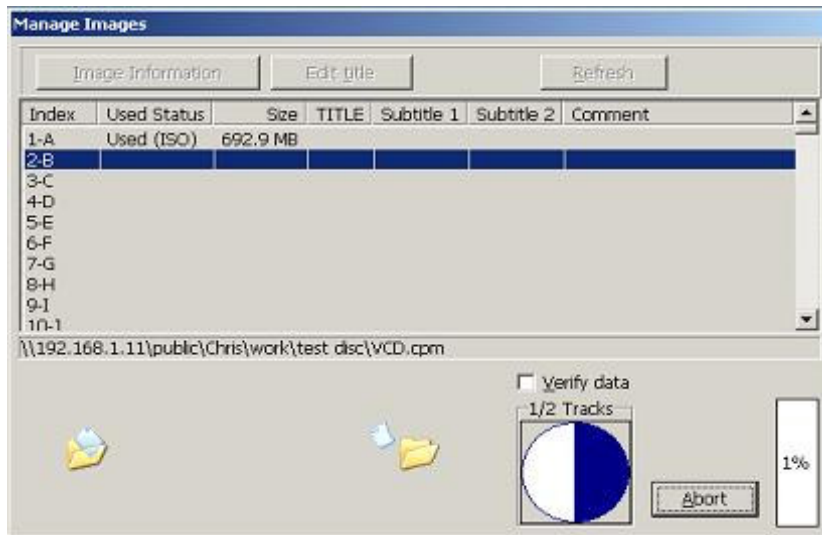

Figure 5
6. Click “Confirm” to transfer the image file as shown in Fig. 5..